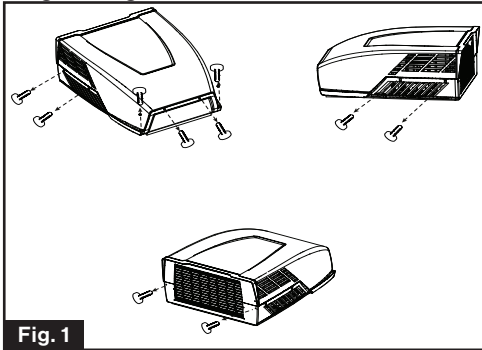

Fig. 1
1. Remove the 10 screws used to fix the top cover, 4 on the front, 2 on each side of air vents, and 2 on the filter grill. (Fig. 1)